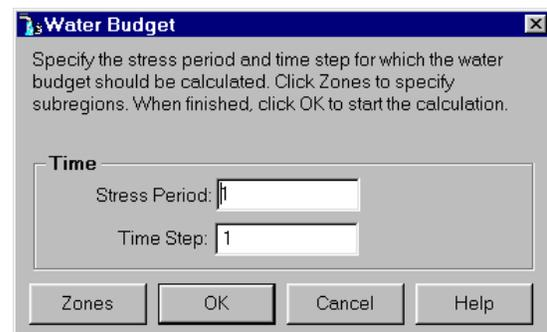

Fig. 1.8. The Water Budget dialog box
1. Select *Tools / Water Budget*: The Water Budget dialog box appears (Fig. 1.8).